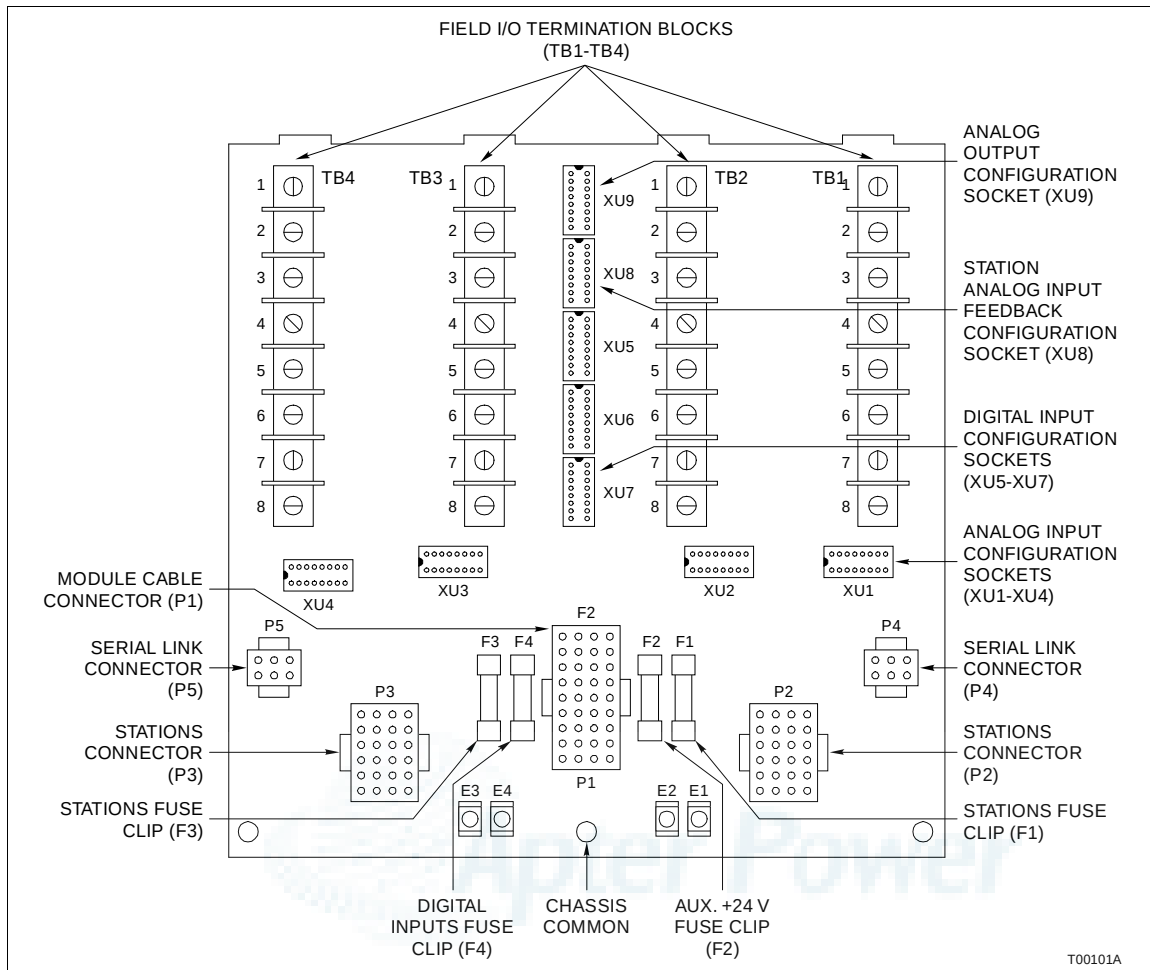
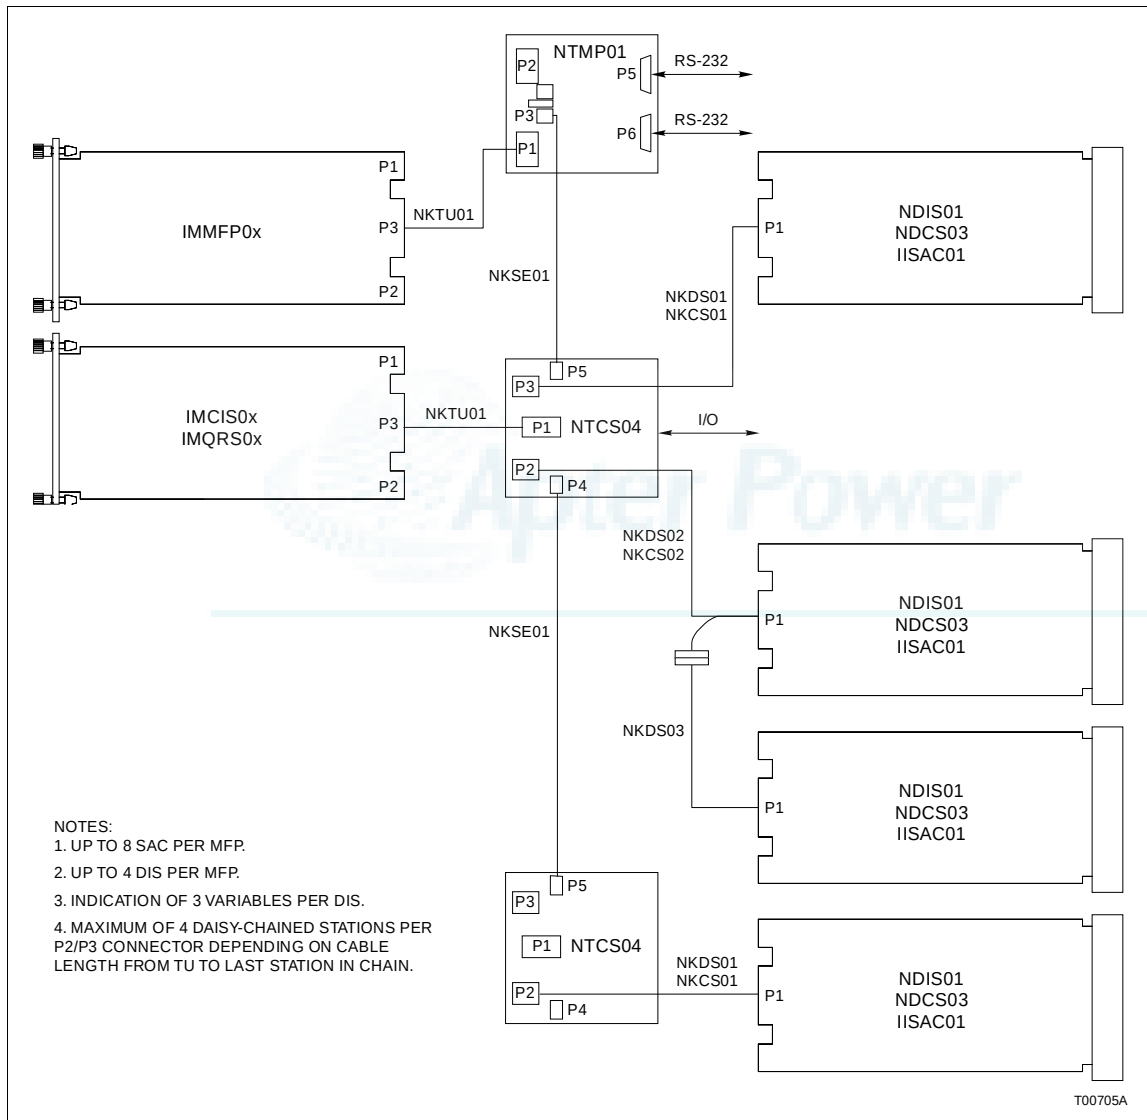

Figure 2-1. NTCS04 Termination Unit Layout
Figure 2-4. Multi-Function Processor Without Termination Unit and Station Cable Connections
1. Install a 4.0 A fuse into fuse clip F1 and F3 (See Figure 2-1 for fuse clip locations).
The Controller/Station Termination Unit (NTCS04) can be set up for several different applications. These include applications with or without control and indicator stations. The TCS terminates analog and digital I/O signals and interfaces them directly to a master/slave module. Figures 2-4 through 2-9 show the cables to use and the cable connections for several different applications of the TCS. See Figure 2-1 for the location of cable connectors P1 through P5.